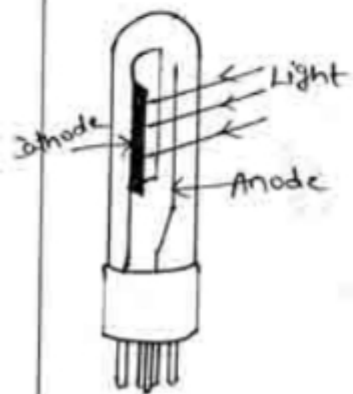

Fig 15: Photoemissive Cell
- ① Photoemissive
- ② Photo Voltaic
- ③ Photo conductive (resistive)
- It consists of semi-cylindrical or V-shaped electrode (cathode) coated with a photoemissive material and an anode (thin wire), both enclosed in an evacuated glass bulb (Fig 15).